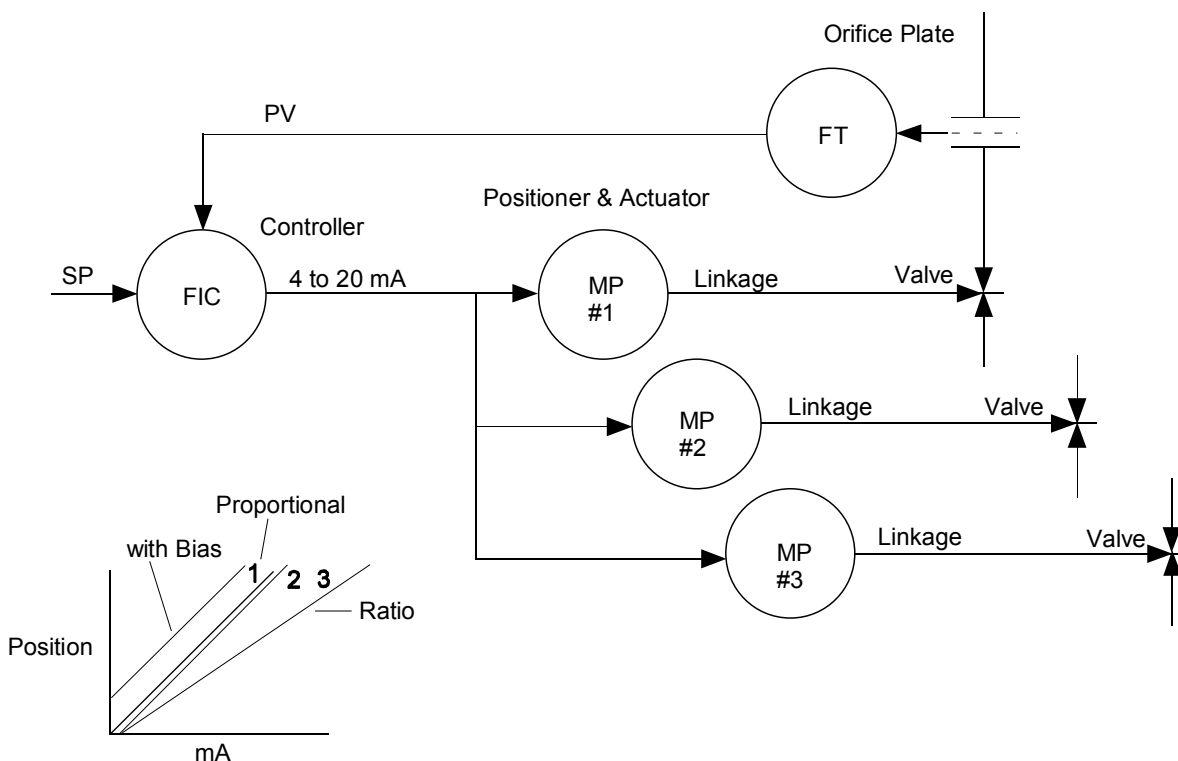

Figure 25 Proportional Flow Using Multiple Actuators
Refer to flow diagram in Figure 25 and interconnection diagrams in Figure 26. The controller governs the fuel flow rate to one burner. Only that flow is measured. Since #2 and #3 motor positioners receive the same signal as #1 motor positioner, valves #2 and #3 will deliver the same amount of fuel. This is true when the span and zero adjustment are all set the same as in curve 2 of the graph. Other relationships between units exist if the span adjustment (3) for ratio or if the zero adjustment is changed (1) for bias.